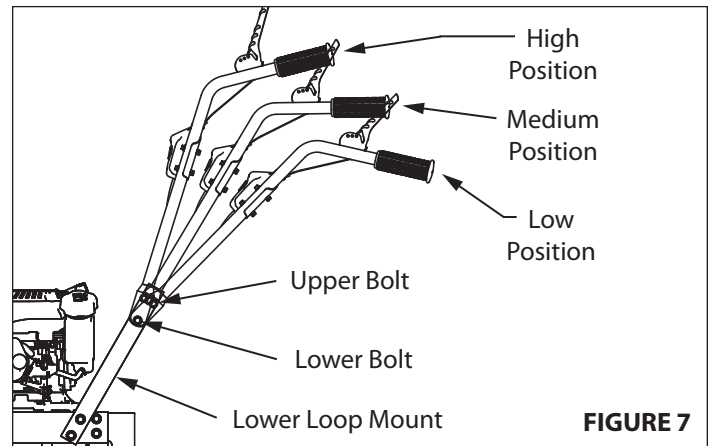

FIGURE 7
7. a. Assemble the upper handle bar assembly onto the lower loop mount using four M8 bolts, four M8 flat washers and four M8 locknuts. The handlebar as well as the bolt should go on the outer side of the lower loop mount, while the washer and nut should be placed on the inside. **SEE FIGURES 7 & 8**
- b. The upper two bolts can be assembled through one of three hole positions depending on the user's preferred handle bar height (low, middle, high). For the highest height, insert bolt into the most forward hole. For the lowest height, insert bolt into the most rear hole. **SEE FIGURE 7**